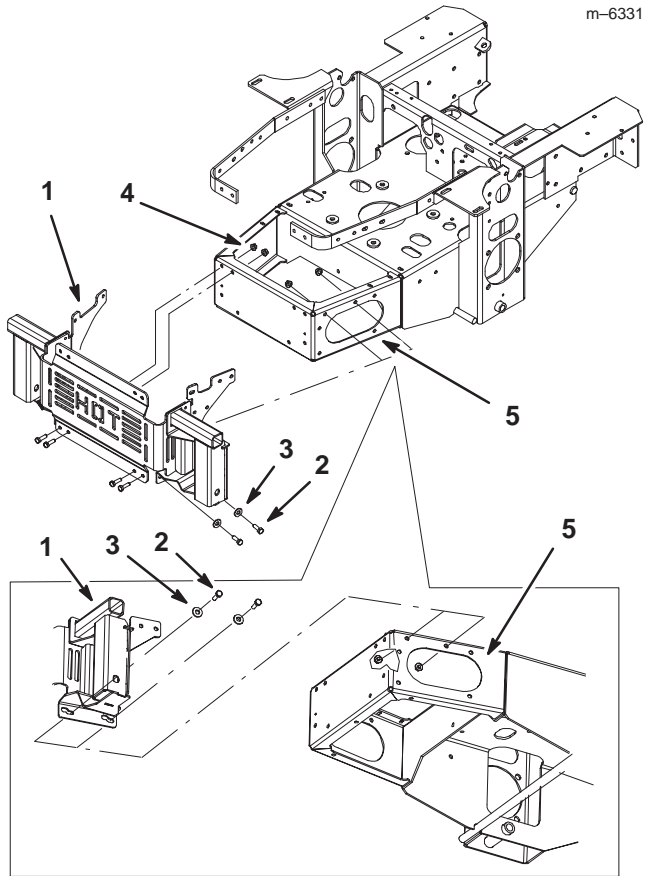

Figure 7
2. Install the bottom part of the bagger mounting assembly to the bumper with 8 bolts (5/16 x 1 inch), 8 flat washers (5/16 inch) and 8 flange nuts (5/16 inch) (Fig. 7).